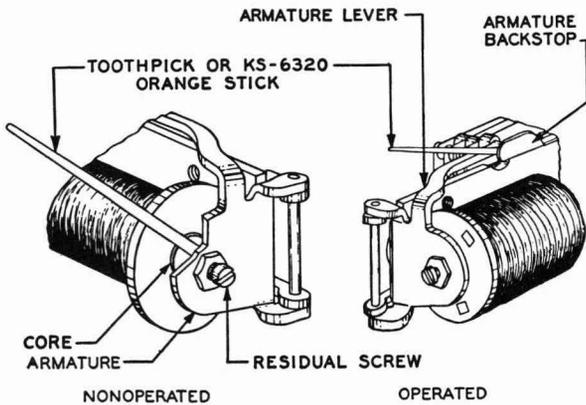

Fig. 13—Blocking 221-, 222-, 223-, 224-, 225-, 247-, and 248-type Relays
3.15 **221-, 222-, 223-, 224-, 225-, 247-, and 248-type Relays:** Fig. 13—Block relays nonoperated, using a toothpick for relays where the armature travel is small and a KS-6320 orange stick where the armature travel is large. Insert the toothpick or orange stick between the armature and core. Block relays operated by manually operating the relays and then inserting the flat end of the toothpick or orange stick between the armature lever and the armature backstop.